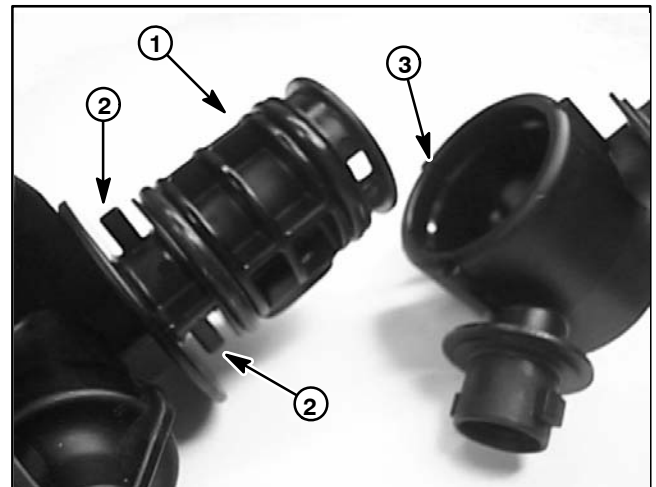

Figure 43
- A. The turret (item 8) end with slightly larger bore and detent grooves needs to be orientated toward detent posts on body (item 4) (Fig. 43).
- B. Make sure to align notch on plug (item 10) with groove in body (item 4) as plug is installed.
- C. Install e-clip (item 5) into body to secure assembly.